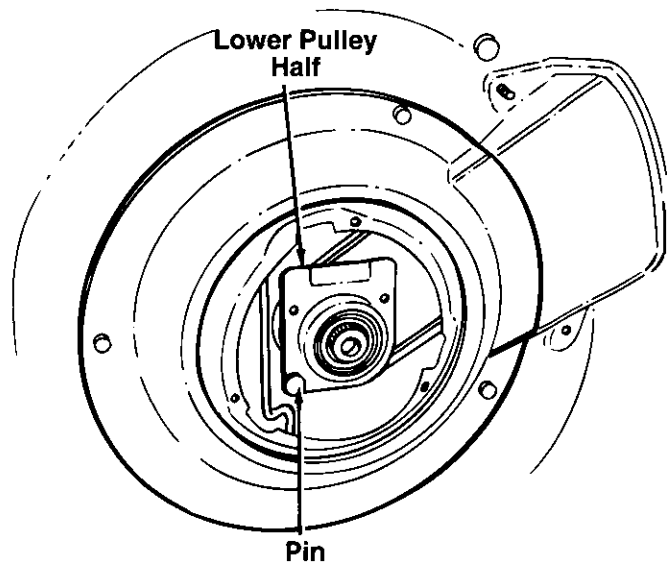
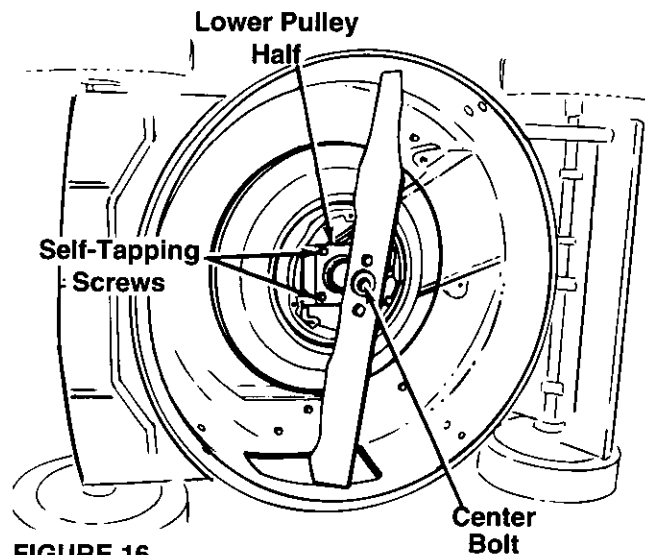

FIGURE 15.
FIGURE 16.
6. Remove the center bolt which secures the blade to the crankshaft. See figure 15. Remove the blade and blade adapter.
7. Remove the two self-tapping screws which secure the lower pulley half. See figure 15. Rotate the lower pulley half 90° clockwise (see figure 16) and remove from mower. Remove the belt from around the crankshaft.